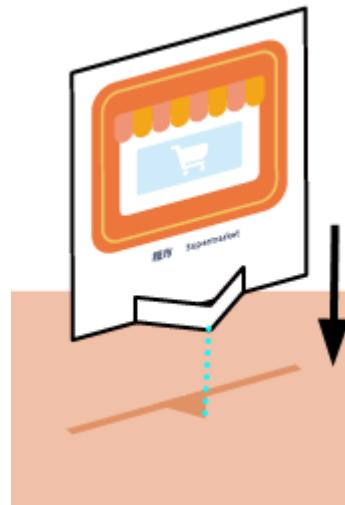

Figure 5.2 Placing of guide sign
- Guide signs must be placed in the same direction as (sharp corner), as shown in Figure 5.2.